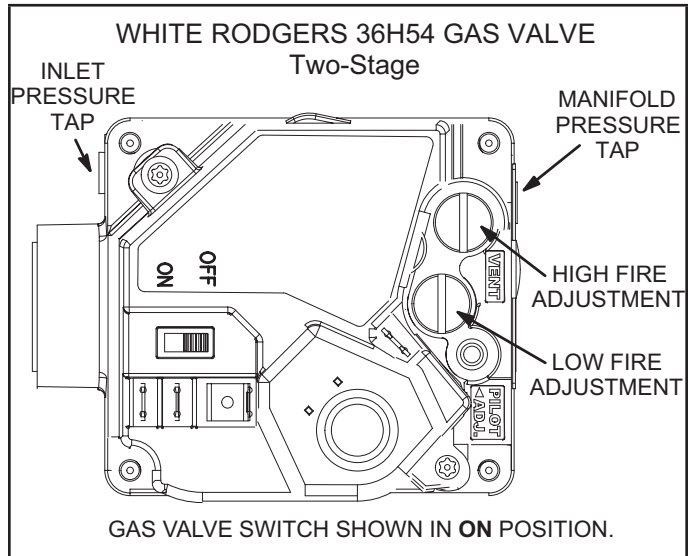
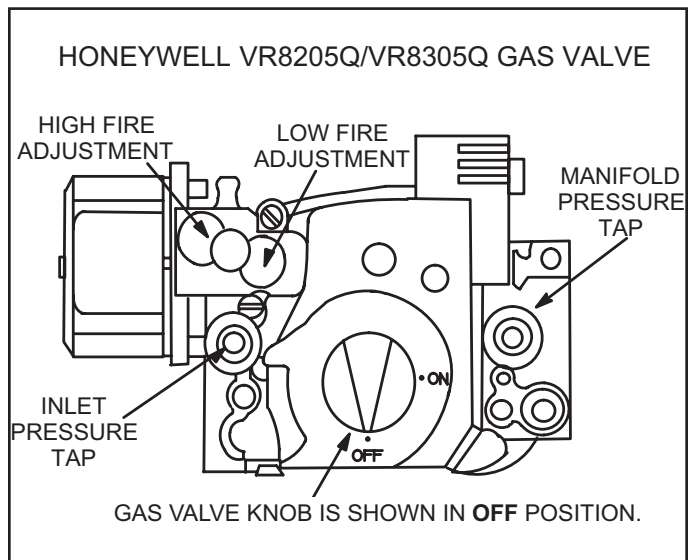

FIGURE 32
FIGURE 33
Gas Valve Operation for Honeywell VR8205Q/VR8305Q and White Rodgers 36H54 (FIGURE 32 and FIGURE 33).
- 5 - Turn gas valve switch to **OFF**. See FIGURE 32. On Honeywell VR8305Q gas valves, turn the knob on the gas valve clockwise to **OFF**. Do not force. See figure 27.
- 6 - Wait five (5) minutes to clear out any gas. If you then smell gas, **STOP!** Immediately call your gas supplier from a neighbor's phone. Follow the gas supplier's instructions. If you do not smell gas, go to the next step.
- 7 - Turn gas valve switch to **ON**. See FIGURE 32. On Honeywell VR8305Q gas valves, turn the knob on the gas valve counterclockwise to **ON**. Do not force. See FIGURE 33.